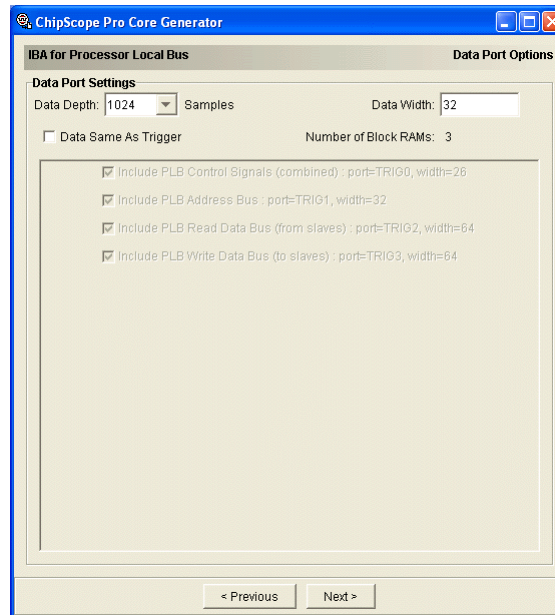

Figure 2-29: IBA/PLB Core Data Port Options
- **Data Separate from Trigger (Figure 2-29, page 2-53)**